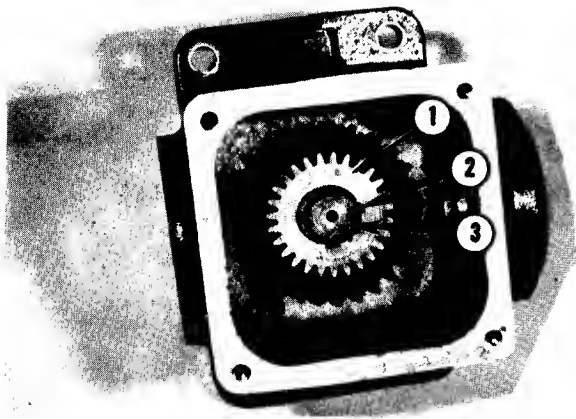

**FIG. 10.11--OUTPUT SHAFT AND BEARING INSTALLED IN GEARBOX**
16. Install one bearing on output shaft and install into gearbox against retaining ring, Fig. 10.11.